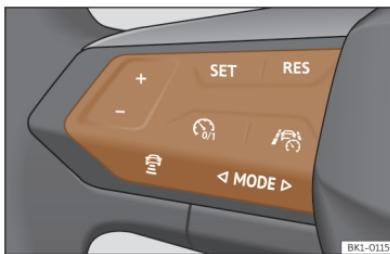

Fig. 126 On the multifunction steering wheel: buttons for operating the ACC.
>>> **Fig. 126**
- Press the button on the multifunction steering wheel >>> **Fig. 126**.
- To start regulation, press the button **SET** >>> **Fig. 126**.
To program the speed, press the + or - >>> **Fig. 126** buttons to the desired speed. The speed is adjusted at intervals of 10 km/h (5 mph).
- Press the button and then the button + or - >>> **Fig. 126**.
- Briefly press the button >>> **Fig. 126** or press the brake pedal.